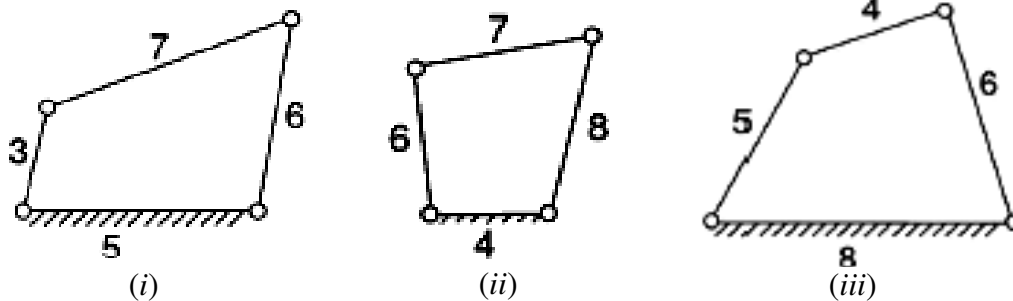

Fig.1
- 1 a) Define Four Bar Mechanism. Fig: 1 shows some four-link mechanisms in which the figures indicate the dimensions in mm of length. Indicate the type of each mechanism, whether it is crank-rocker or double crank or double rocker. [9M]